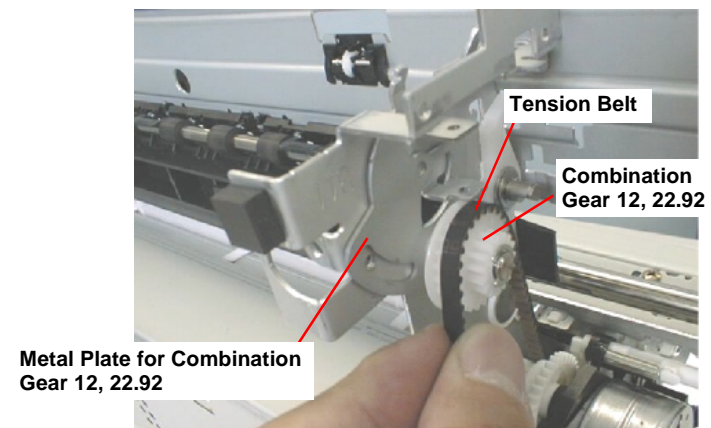

Figure 4-21. Removing the Tension Belt
- 6) Loosen the Tension Belt by pushing down the Metal Plate for Combination Gear 12,22.92 and remove the Tension Belt from the Combination gear 12, 22.92. Refer to Figure 4-21.